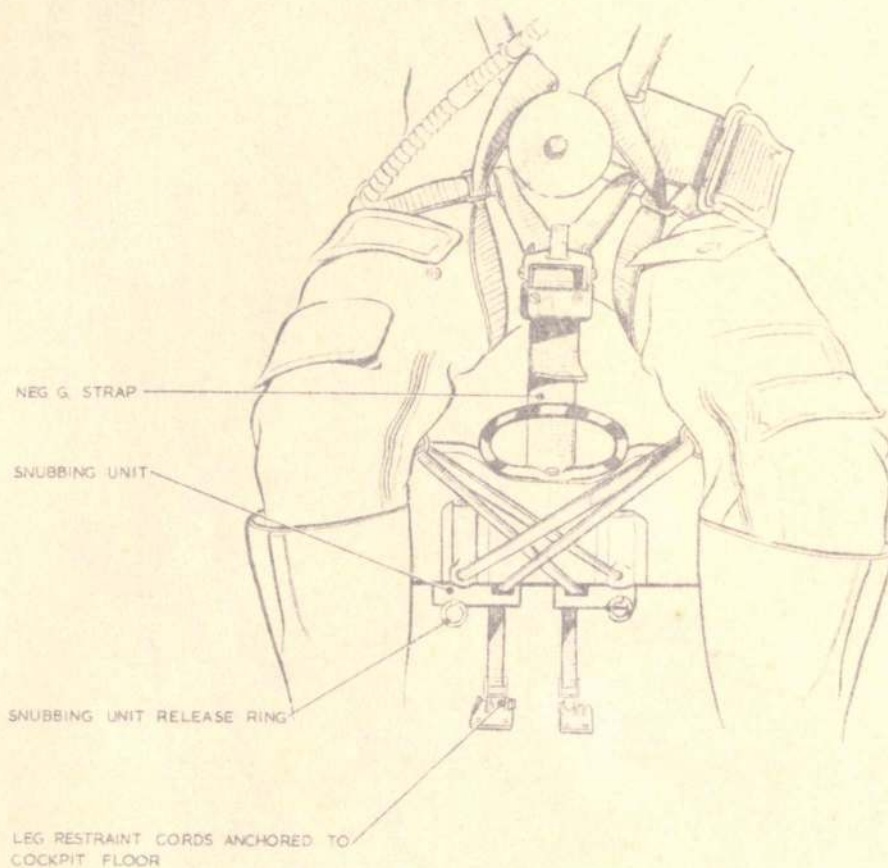

Fig. 8. Arrangement of leg restraint cords, harness and negative-G restraining strap
18. The following procedure is to be adopted when strapping into the seat; refer to fig. 8 to 10 for detail as necessary:-